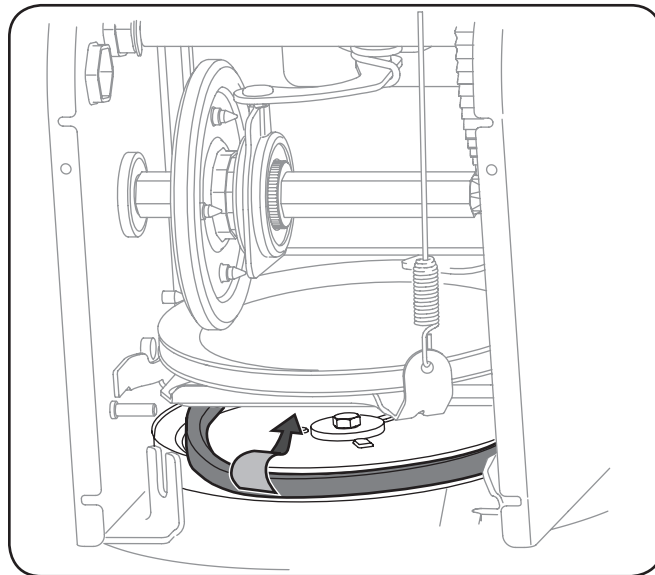

Figure 7-6
8. Remove the belt from around the auger pulley, and slip the belt between the support bracket and the auger pulley. See Figure 7-6.